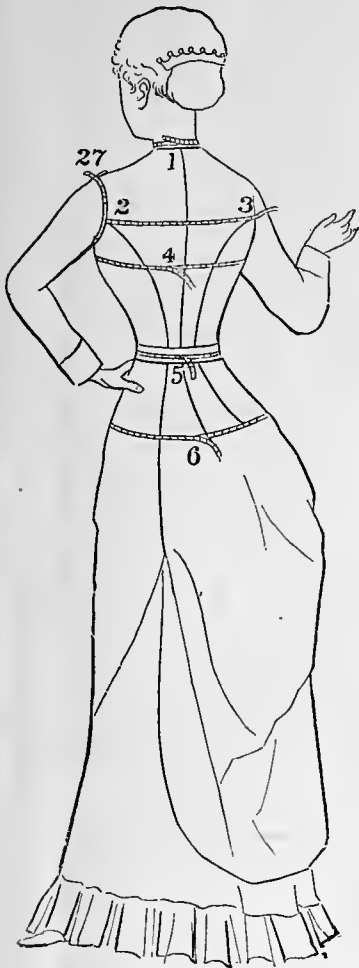

Fig. 1.
**FIRST.**—The *neck* measure is taken, (while standing at the back) just above the band of the dress, around the bare neck, snug, not loose. Do not allow anything for comfort; the machine does that. This measure is shown at 1 on Fig. 1.
**SECOND.**—*The width of back* is taken with the tape across the shoulder-blades, between the armholes, and is to be just the width you desire the garment to be when finished, as the machine allows for the seams. This measure is shown by the line from 2 to 3 on Fig. 1.
**FIFTH.**—*The armhole* is measured at the shoulder, where the sleeve is to join the body. Have the hand resting on the hip and measure the arm rather tight, as the armhole gets larger while making up. The place to measure is shown on Fig. 1, at 27.
NINTH.—*The bust measure* is taken over the fullest part of the bust, not above it, close up under the arms and across the shoulder-blades, keeping up a little on the back, as shown in front in Fig. 2, and at back in Fig. 1, at 4. It is best to take this measure while standing at the back, and always ascertain whether the same or a corset of a similar bust formation is to be worn with the new garments.
TENTH.—*The waist measure* is taken with the belt removed and medium tight, as shown in Fig. 1, at 5. Stand at the back while taking this measure. When taken over the belt, one inch must be deducted for the correct measure.
ELEVENTH.—*The hip measure* is taken *five inches* below the waist, around over the hips, rather loosely, as shown in Fig. 1 at 6. The quantity of clothing and drapery must be considered when taking this measure. It is best taken when standing at the back.